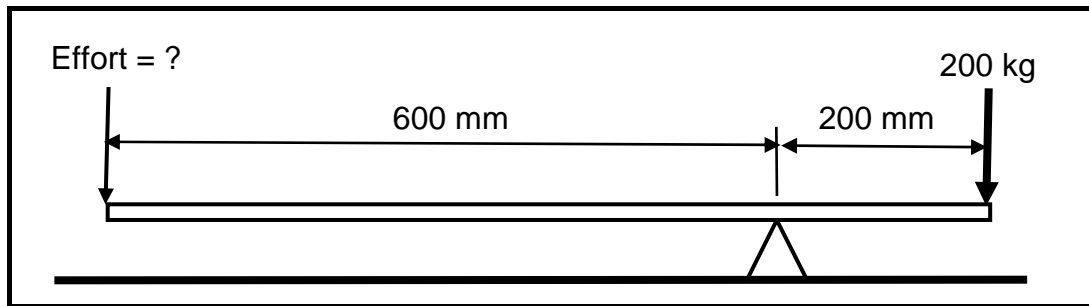

FIGURE 2.2
2.4 FIGURE 2.2 shows a simple lever at work.